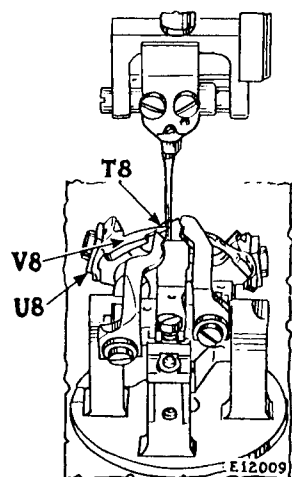
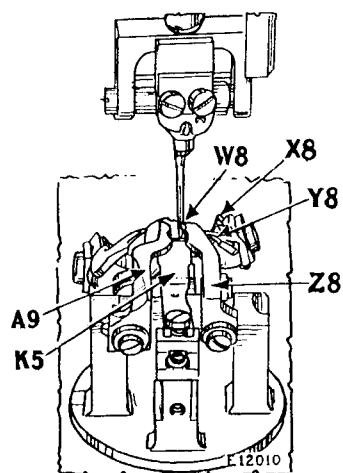
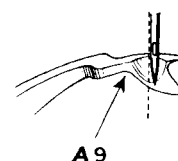
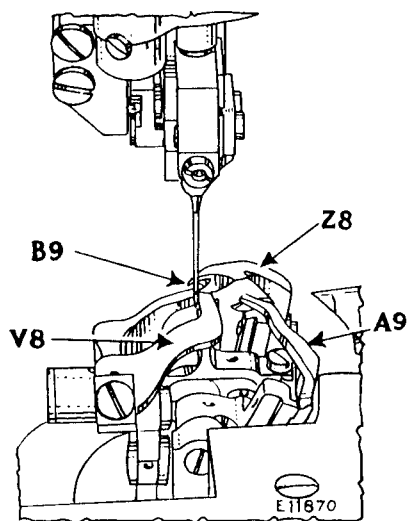

Fig. 14. Showing Correct Timing of Non-Threaded Looper
Fig. 15. Showing Correct Timing of Threaded Looper
Fig. 16. Showing Correct Relative Positions of Left Hand Loop Retainer and Needle
Fig. 18. Showing Correct Relative Positions of Loop Retainer and Non-Threaded Looper
When changing the width of bight or lateral throw of the needle, it will be necessary to adjust the loop retainer (A9, Fig. 15) and the non-threaded looper (V8, Fig. 14), as instructed below and on pages 34 and 36.
When replacing loopers, first remove work clamp plates and throat plate (12, Fig. 4), then place wrench on pattern wheel clamping nut (S5, Fig. 9) and turn until stop lever operating plate (Z5, Fig. 9) rides on the pattern wheel ring (R5, Fig. 9), allowing the machine to be turned by hand. Place non-threaded looper (V8, Fig. 14) on seat of looper rocker (U8, Fig. 14) and turn machine until the needle bar, after descending to its lowest point, has risen so that the **lower timing mark** on needle bar is even with top of top needle bar bushing, and the point of the non-threaded looper has advanced to center of a true needle. At this position, the point of the non-threaded looper should be
adjusted to centre of needle, as shown at T8 in Fig. 14, and adjusted sidewise so that it just clears the needle.
The needle guard (K5, Fig. 15) should be set as close as possible to the needle without deflecting it. To set the needle guard in the correct position, loosen its two screws and move the needle guard forward or backward, as required, then securely tighten the two screws.
Turn hand wheel over until looper (Y8, Fig. 15) can be inserted on looper rocker seat (X8, Fig. 15), then turn machine until the needle bar, after descending to its lowest point has risen so that the **lower timing mark** on needle bar is even with top of top needle bar bushing and the point of the threaded looper has advanced to the centre of the needle. At this position, the looper point should be adjusted to centre of needle, as shown at W8 in Fig. 15, and adjusted sidewise so that it just clears the needle.
It is first advisable to adjust the right hand loop retainer (Z8, Figs. 15 and 17). The right hand loop retainer should be set in height so that it just clears the threaded and non-threaded loopers, or so that there is sufficient space between the top side
striking or dragging against the further side of the loop held upon the non-threaded looper, as shown in Fig. 18.
To replace and adjust left hand loop retainer (A9, Fig. 18), first obtain about the proper amount of bight required by the needle as instructed on page 33. This loop retainer should be set in height so that there is just sufficient space between the top side of the threaded looper and the underside of the loop retainer for the thread to pass through. It should also be adjusted side-wise so that, as the needle descends, it just clears it on the side, as shown in Fig. 16, which shows a side and top view of the left hand loop retainer correctly adjusted. The left hand loop retainer should be adjusted forward or back so that the needle in descending will penetrate the loop held suspended on its horn.
The above adjustment of the adjusting nuts (G2) on the looper driving bar (H2) should position the loopers correctly so that the point of the threaded looper (Y8, Fig. 15) and non-threaded looper (V8, Fig. 14) will be at the center of the needle on their respective strokes when the needle bar has risen, so that the lower timing mark on needle bar is even with the top of needle bar bushing. It may be found that the point of one of the loopers is ahead or back of the center of the needle. If such is the case, make sure that the distance between the points of the loopers is $\frac{5}{16}$ " (measure by passing a $\frac{5}{16}$ " shaft between the points so that the shaft just drags upon each of the points as the shaft is passed between). Then readjust the adjusting nuts (G2, Fig. 3) for the looper driving bar (H2, Fig. 3) up or down, as the case may be, to bring the point of the looper to the center of the needle. Any adjustment of the looper driving bar moving the looper to or from the center of needle will throw the other looper in the opposite direction, therefore each looper should be checked with respect to its own dip of the needle.
The loop retainer driving bar adjusting nuts (A2 and C2, Fig. 3) should now be positioned to raise or lower the driving bar (8), thus positioning the loop retainer seat on the carrier (O, Fig. 3) in a vertical position when loop retainer slide (B2, Fig. 3) is at its extreme throw. When the correct position of loop retainer driving bar is obtained, it will bring the point of the right hand loop retainer (Z8, Fig. 15) just to the further edge of the non-threaded looper (V8, Fig. 14) as the non-threaded looper advances and the right hand loop retainer remains stationary. Should the right hand loop retainer overlap or fail to come up to within a few thousandths of the further edge of the non-threaded looper, it will be necessary to adjust the loop retainer by removing or adding shims, as referred to on page 37. After making the adjustments to the looper driving bar (H2, Fig. 3) and the loop retainer driving bar (8, Fig. 3), ratchet the machine as referred to on page 61 to see that there is no bind to the adjusting nuts as the looper bracket (M2, Fig. 3) is rotated.
When replacing a looper driving crank (D2, Fig. 3) to the looper frame (W, Fig. 3), position the looper driving crank gear in proper mesh with the looper driving gear so that the timing marks on each gear are in line with each other. Turn the looper driving crank until the set screw on the crank gear is downward and in direct line with the screwdriver hole in the bottom edge of the looper frame (W, Fig. 3) and holding the driving gear and crank gear in this position, turn the looper driving crank (D2, Fig. 3) so that the $\frac{3}{16}$ " hole (E2, Fig. 3) in its flange is to the left and the lower edge of hole is over and exactly in line with the top edge of the left hand counterbored screw hole (F2, Fig. 3) in the flange of the looper driving crank bushing which is directly under the flange of the looper driving crank (D2) when looper frame (W) is in an upright position, then slightly tighten set screw. Now place looper frame (W) on the machine as instructed on page 37. After making sure that the looper driving bar (H2) is assembled with the lower adjusting nut (G2, Fig. 3) flush with the lower end of the looper driving bar (H2), as instructed on page 39, set the non-threaded looper (V8, Fig. 18) so that the forward edge of the non-threaded looper (V8) seat is flush with the forward edge of the seat on the looper carrier (P8, Fig. 5). Turn the hand wheel (D, Fig. 2) until the needle bar, after descending to its lowest point (on the depth stitch or vibration nearest to the non-threaded looper) has risen so that the lower timing mark on needle bar is even with the top of the top needle bar bushing and advance or retard the looper driving crank (D2, Fig. 3) a very slight amount until the point of the non-threaded looper (V8, Fig. 18) is opposite the center line of the needle. (This may be done by turning the hand wheel (D) over until it is noted that the looper driving crank remains stationary and holding the hand wheel (D) in this position and with a punch striking the $\frac{3}{16}$ " hole in the flange of the looper driving crank.) Now turn the hand wheel (D) over until the needle bar, after descending to its lowest point (on the slit stitch or vibration nearest to the threaded looper), has risen so that the lower timing mark on needle bar is even with the top of top needle bar bushing, then position the point of the threaded looper (Y8, Fig. 15) so it is opposite the center line of the needle. Carefully measure the distance between the points of the non-threaded looper (V8, Fig. 18) and the threaded looper (Y8). Should the distance be greater than $\frac{1}{16}$ inch, turn the looper driving crank (D2, Fig. 3) a slight amount in a counter clockwise direction while holding the hand wheel (D) or should the distance be less than $\frac{1}{16}$ inch, turn the looper driving crank (D2) a slight amount in a clockwise direction. Now proceed as before to bring the needle bar to the timing mark on the depth stitch